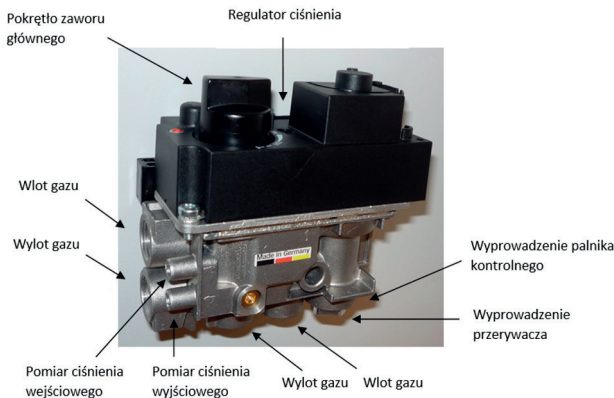

Figure 13. The GV60 controller in its home position
Fig. 13 shows the GV60 controller at its home position with the breaker block pointing downwards. The module cannot be mounted upside down. The control position can be adjusted in the range from 0° to 90° relative to its home position (also vertical). Please note that all unused gas inlets or outlets should be protected with suitable plugs.
2. The minimum flame height of the main burner can also be adjusted by tightening the adjusting screw (Fig. 13). The adjustment screw is set so as to provide the maximum flame height.